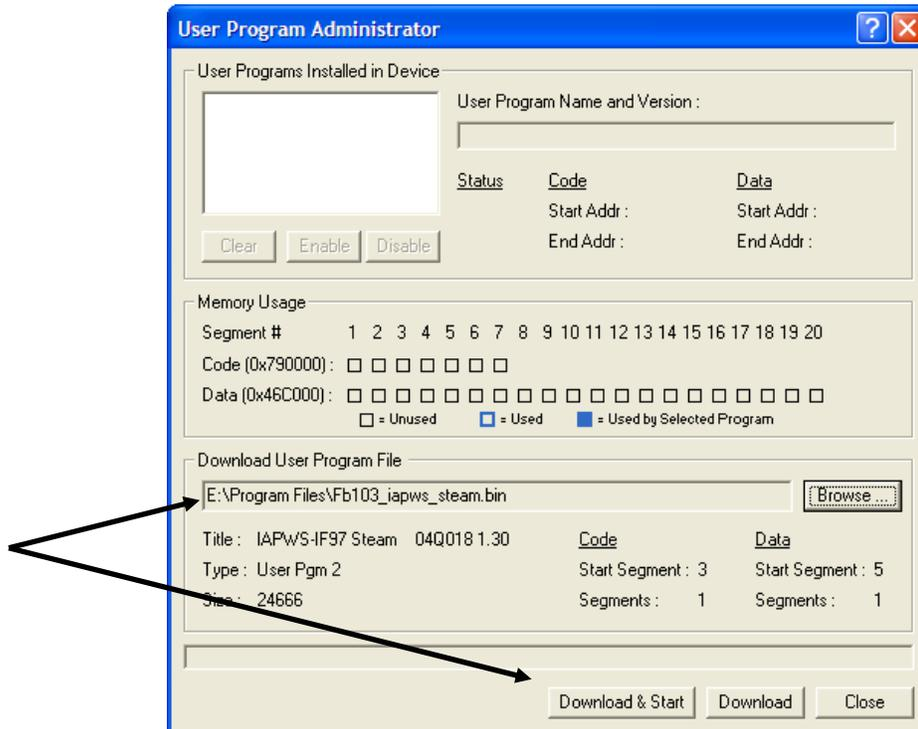

Figure 4. User Program Administrator Screen
7. Click Open to select the program file. The User Program Administrator screen displays. As shown in Figure 4, note that the Download User Program File frame identifies the selected program and that the Download & Start button is active: